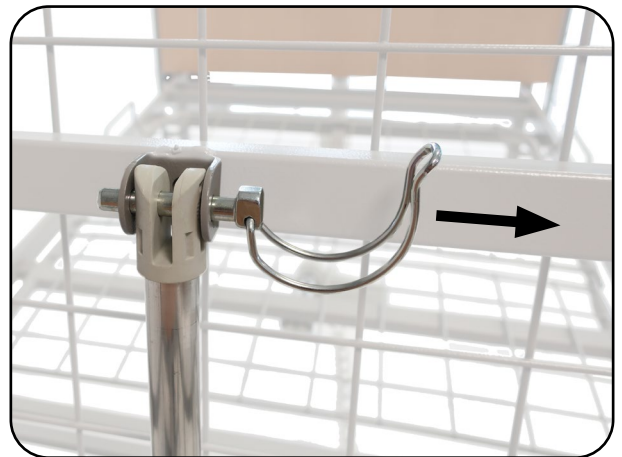

Fig. 8.7.01 – Tube clip for emergency lowering
2. The second user then folds down the safety bracket of the tube clip, pulls it out and puts it to one side (Fig. 8.7.01). (The drive is disconnected and swivels downwards so it is out of the way. The back part is now no longer held in place by the drive.)